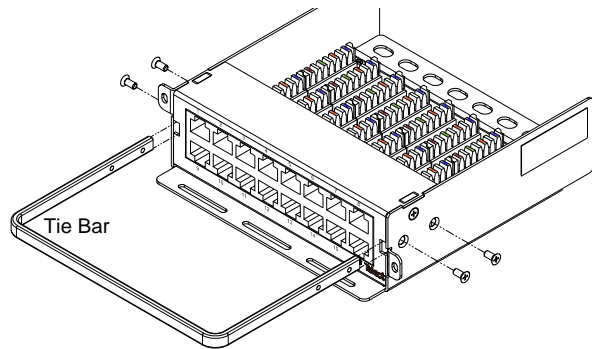

Figure 2 - Attaching the Cable Management Tie Bar
1. Use four, 4-40 x ¼ in. screws (supplied) to attach the cable management tie bar to the front of the module, as shown in Figure 2.